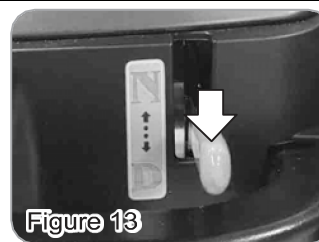

Figure 13
- When lever is in Drive (D) position, the scooter can be driven. Normal position is in D (Figure 13).